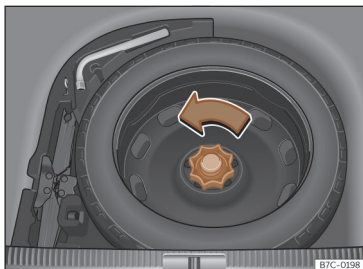

Fig. 232 In the luggage compartment: raised load floor.
- Turn the thumb wheel anticlockwise >>> **Fig. 232**.